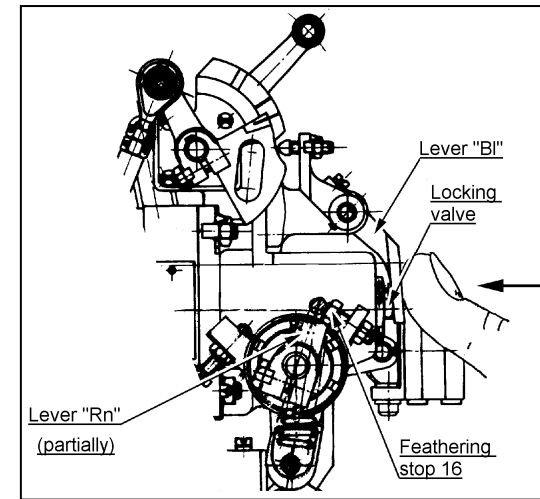

FIGURE 12-23
- (8) Secure the stop 16 by tightening the nut.
- (9) Move propeller control lever to the stop 16 and fix, manually through the lever "Bl" press the locking valve according to figure 12-23. Small clearance $\approx 0,1$ mm (.004 inch) must be evident.
- (10) Verify functionality according to section 12.6.
- (11) Record in the logbook.